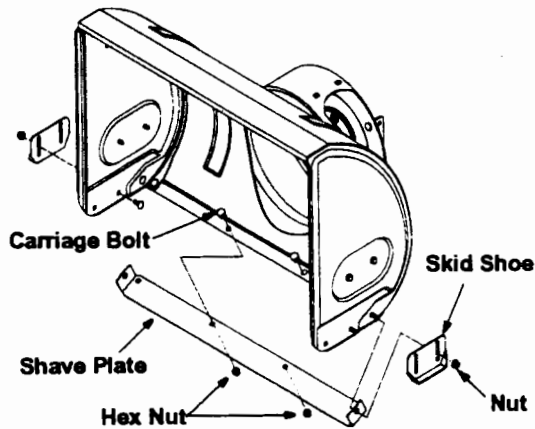

Figure 16
1. Remove four carriage bolts and hex nuts which attach two skid shoes to the snow thrower on two sides. See Figure 16.
1. After removing both skid shoes, remove four carriage bolts and hex nuts which attach shave plate to the snow thrower housing. See Figure 16.